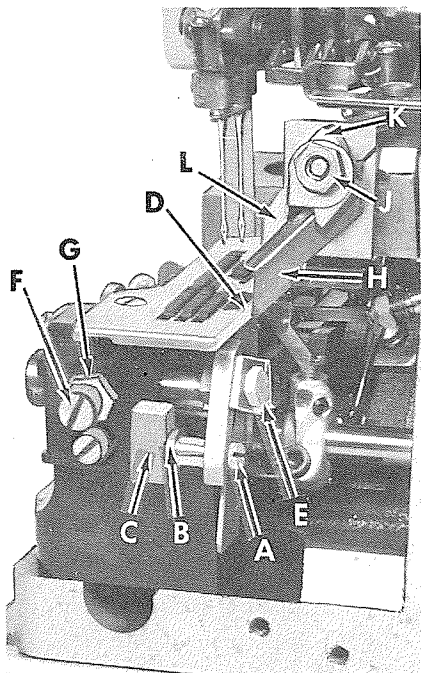

Fig. 16
Replace the lower knife holder assembly. In replacing the lower knife holder assembly, tighten screw (A, Fig. 16) so that when the face of the flange on sleeve (B) seats against throat plate mounting bracket (C), a free lateral motion of the lower knife and holder assembly is obtained when the knife is manually pressed at its upper corner. Lower knife (D) should be set with cutting edge flush with top of throat plate. Adjustments are made with hexagonal head screw (E) which holds the lower knife. Lower knife is spring pressed against the upper knife, so no lateral adjustment is necessary when the width of trim is changed.
Replace the upper knife assembly. Clamp upper knife (H, Fig. 16) in position, setting nut (J) to hold clamp (K) in its most clockwise position against upper knife. At the bottom of its stroke, front cutting edge of upper knife should extend not less than 1/64 inch (.40 mm) below cutting edge of lower knife. The chain guard (L) should be set down against the upper knife and slightly back from the cutting edge.